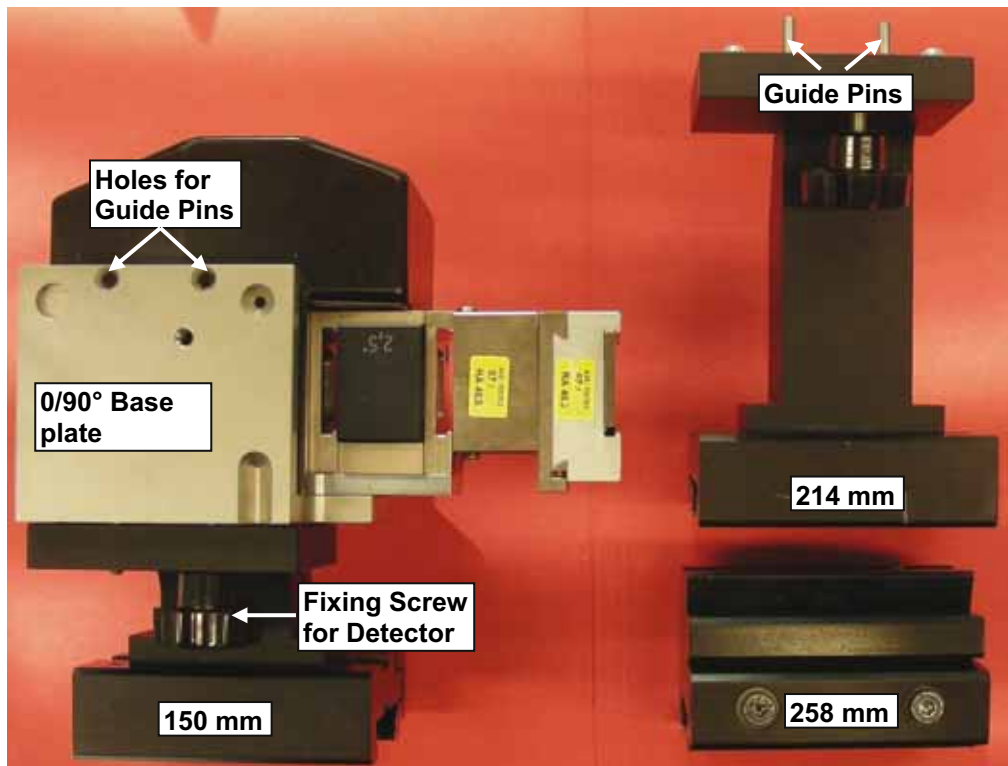

Figure 9.4 Mounts for different measurement heights.
- 0/90° Mount with adapters for different measurement heights, Figure 9.4